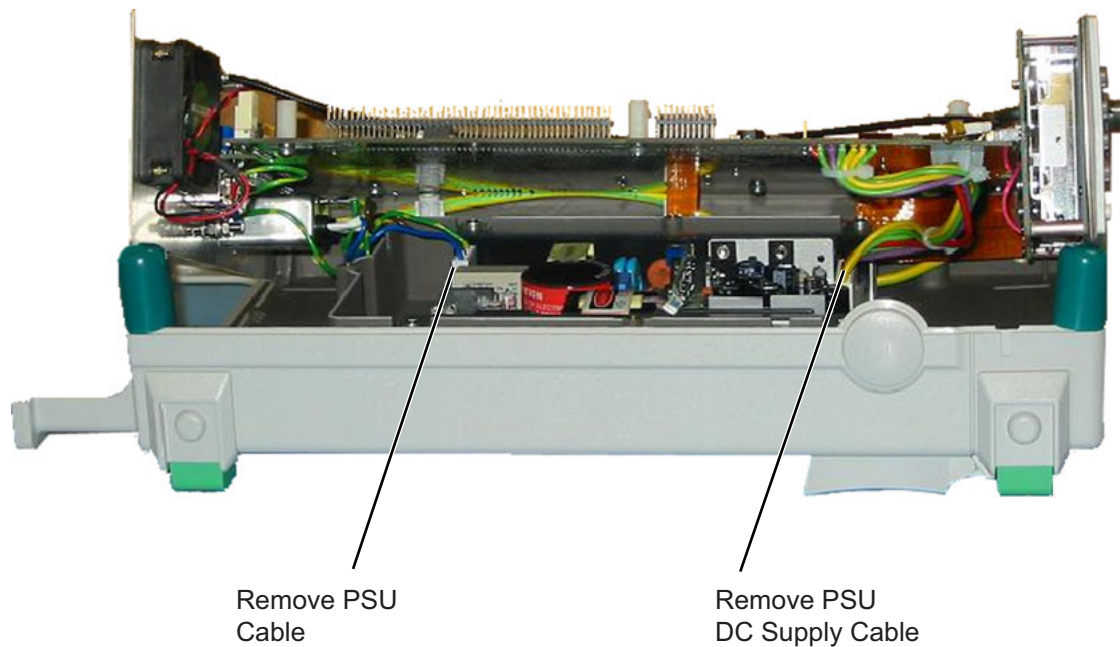
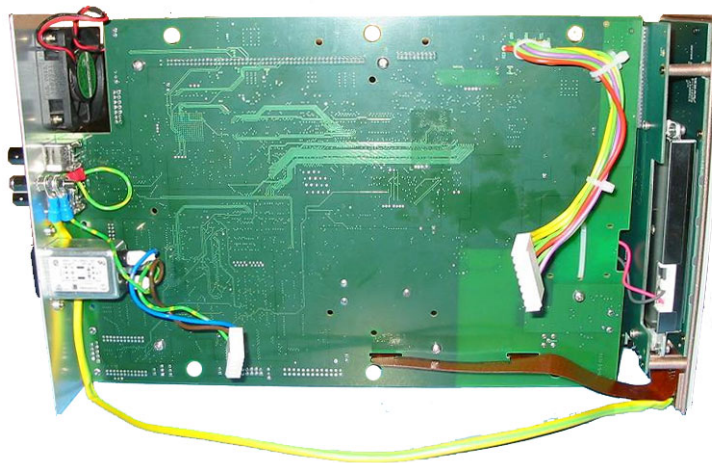

Figure 6-6. PSU Cable Removal
Figure 6-7. Main Control PCB Removed
5. As shown in Figure 6-6 and Figure 6-7, gently lift up the main control PCB and disconnect the line power cable at the PSU connector P1, which connects the rear panel to the PSU.